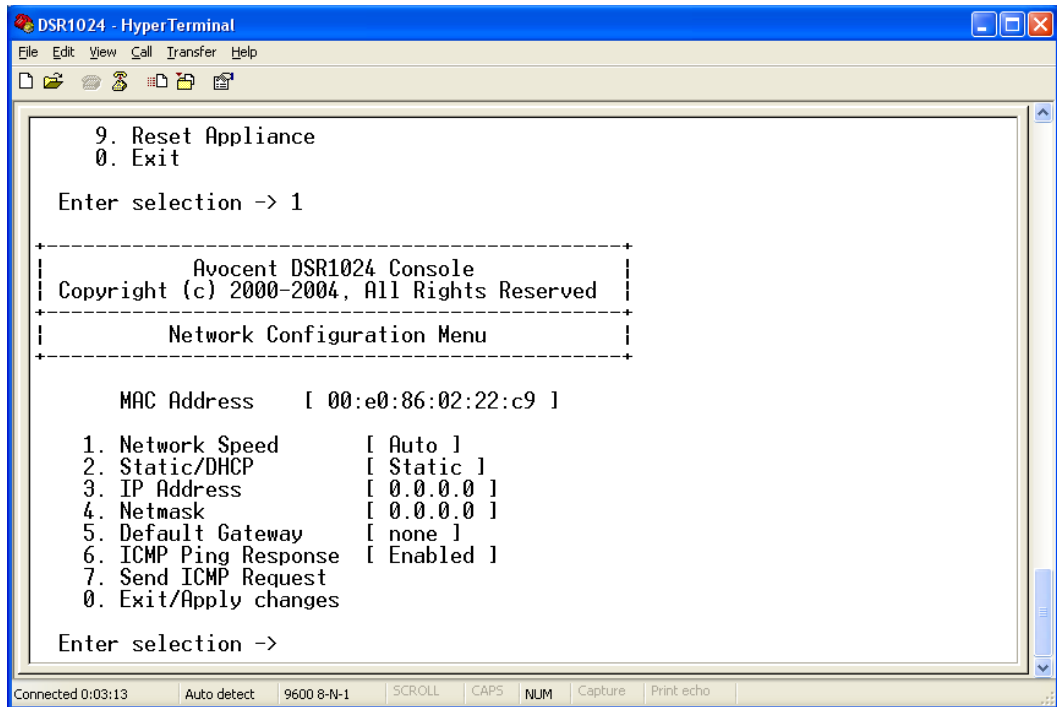

Figure 5.2: Network Configuration Menu
3. Type **1** and press **Enter** for the Network Configuration option to display the Network Configuration menu shown in Figure 5.2 on page 47.